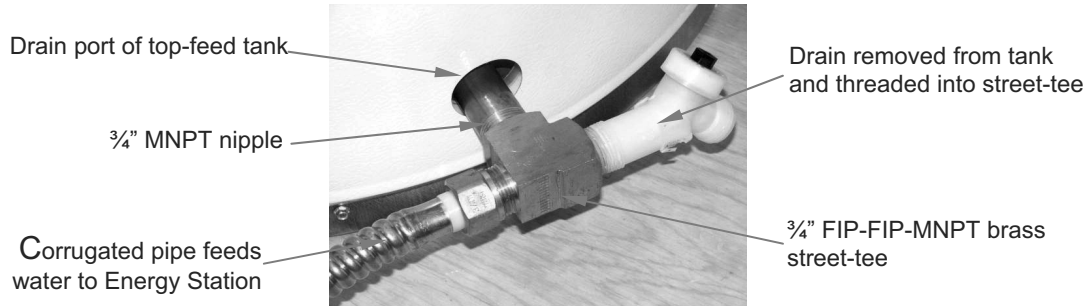
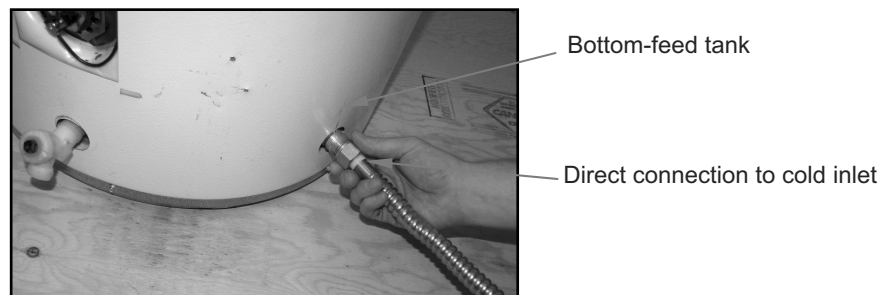

Fig.4.2.4 – Top-feed tank connection includes ¾” MNPT nipple and street-tee.
Fig.4.2.5 – Direct connection for bottom-feed tank.
- [TOP-FEED TANK ONLY]** Remove drain valve from bottom port of tank. Apply thread sealant or Teflon tape to both ends of supplied 2½” x ¾” MNPT nipple. Thread into bottom port. Thread middle port of supplied ¾” FIP-FIP-MNPT street-tee onto nipple and tighten such that MNPT points to front of tank where Energy Station will be mounted (*Fig.4.2.4*).
- [TOP-FEED TANK ONLY]** Apply thread sealant or Teflon tape to removed drain valve. If plastic is damaged, a metal replacement is recommended. Thread into remaining FIP port of street-tee and tighten (*Fig.4.2.4*).
- With Energy Station upright (vertical) and corrugated copper pipe straight, thread un-connected end of corrugated pipe onto MNPT port of street-tee on top-feed tank (*Fig.4.2.4*), or directly to cold inlet port of bottom-feed tank (*Fig.4.2.5*). Tighten, but do not over-tighten as gasket may be damaged.